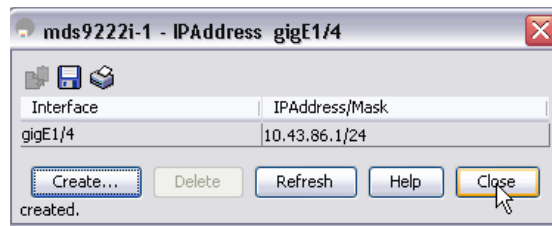

Figure 7-34 IP address set
5. Select the **Close** button to return to the IP Address page, confirm that the correct IP address is set, and select the **Close** button (Figure 7-34).